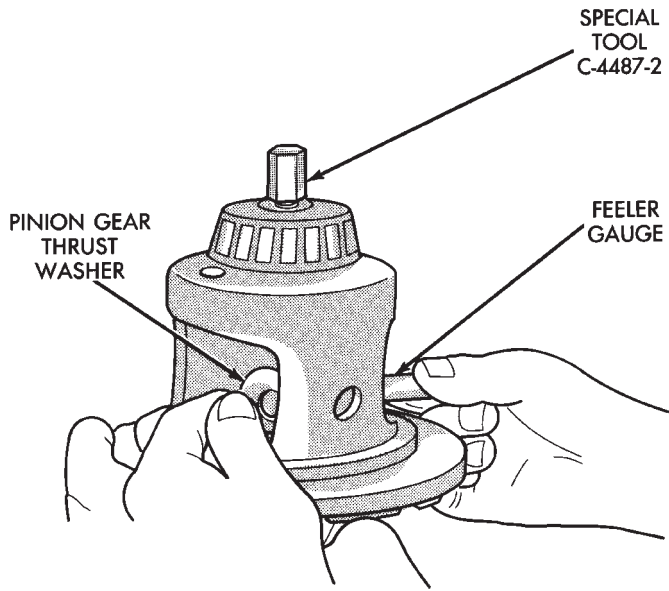
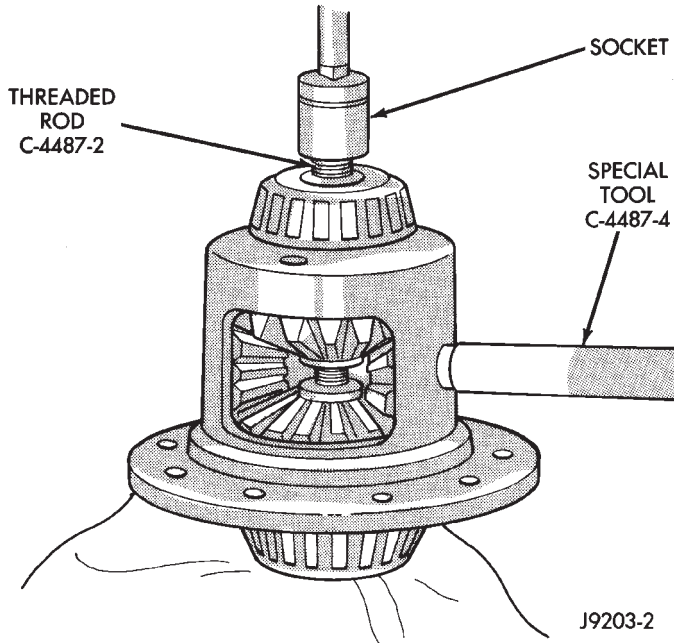

Fig. 10 Remove Pinion Thrust Washer
Fig. 11 Pinion Gear Removal
(9) Tighten forcing screw tool enough to relieve clutch pack tension. Remove both pinion thrust washers (Fig. 10).
(10) Loosen the forcing screw tool until the clutch pack tension is relieved.
(11) Insert Turning Bar C-4487-4 in case. Rotate case with tool until pinion gears can be removed (Fig. 11).